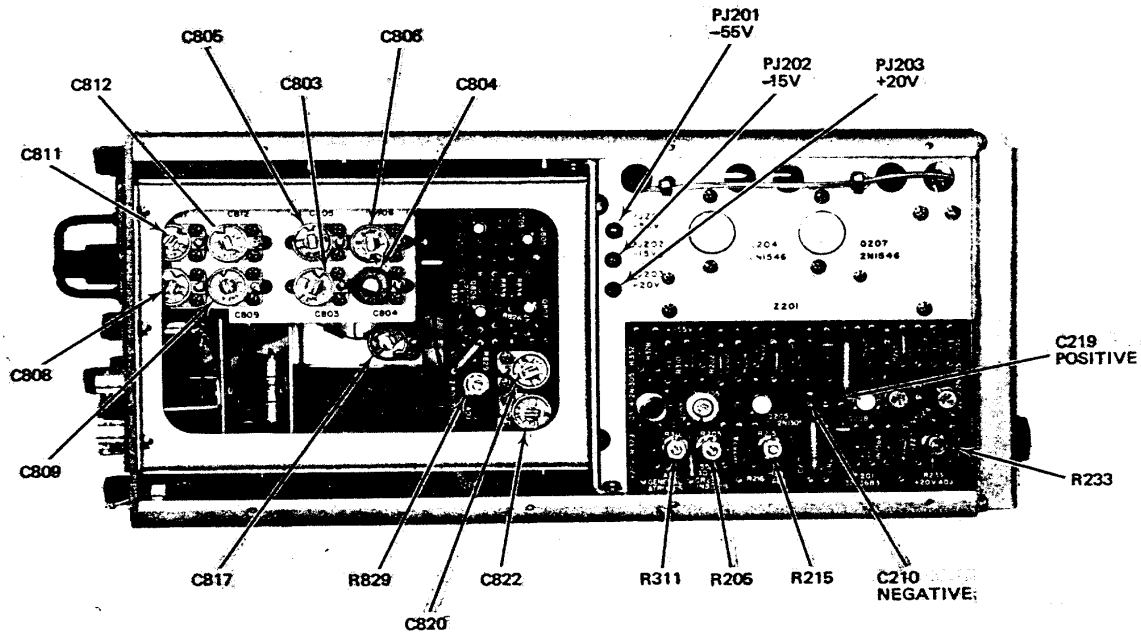

Figure 4. Plug-in unit MX-2996/USM-117 - right side view.
- (1) Adjust oscilloscope calibrator (voltage calibrator) output for 0.040 V p-p.
- (2) Set R612 (fig. 1) to midrange and adjust R829 (fig. 4) until vertical display is 4 divisions (R).
(1) Adjust C817 (fig. 4) for optimum square-wave display.
(2) Adjust C820 (fig. 4) and C605A (fig. 1) for Optimum square-wave display.
(3) Adjust C822 (fig. 4) for optimum square-wave display.
(4) Set VOLTS/DIV VARIABLE control to CAL.
(5) Adjust oscilloscope calibrator amplitude control for a convenient square-wave display.
(6) Repeat **a(5)** through (7) above and corresponding adjustments until no further adjustments are required.
Test instrument VOLTS/DIV switch settings	Adjustments (fig. 4)
b. Adjustments. Adjust C804 (fig. 4) until TI square-wave display has optimum flat top, and minimum overshoot and rounding.
(3) Energize TI. If voltmeter does not indicate between -570 and -590 V dc, perform **b** below.
(4) Rotate INTENSITY control throughout its range while observing that voltmeter does not vary by more than 10 V dc.
b. Adjustments. Adjust R311 (fig. 4) until voltmeter indicates -580 V dc (R).